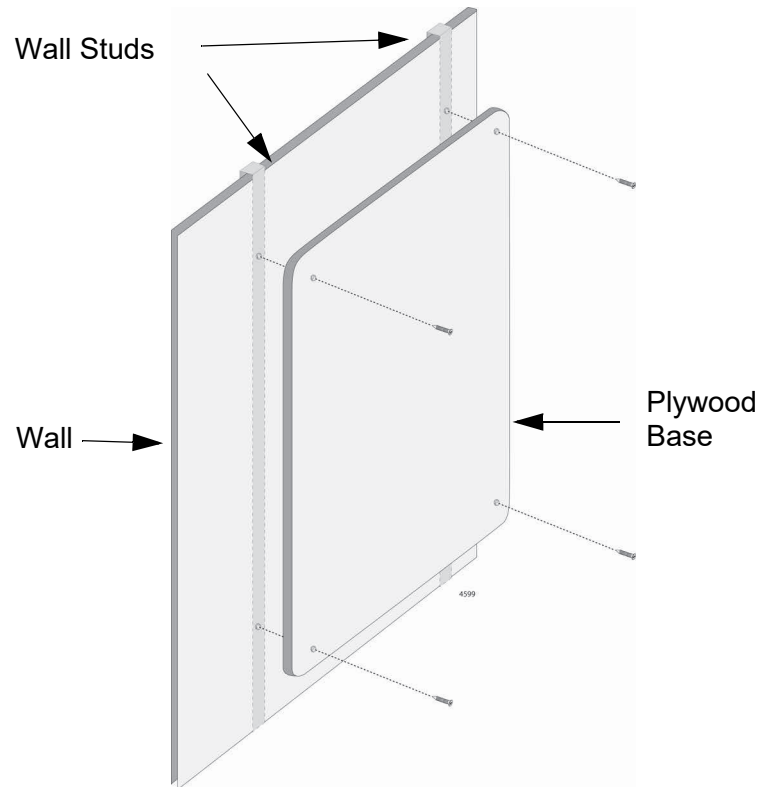

Figure 45. Installing the Plywood Base
- ❑ The selected wall location for the base must provide sufficient space from other devices or walls so that you can access the front and back panels, and for adequate air flow for ventilation. Refer to Figure 45.